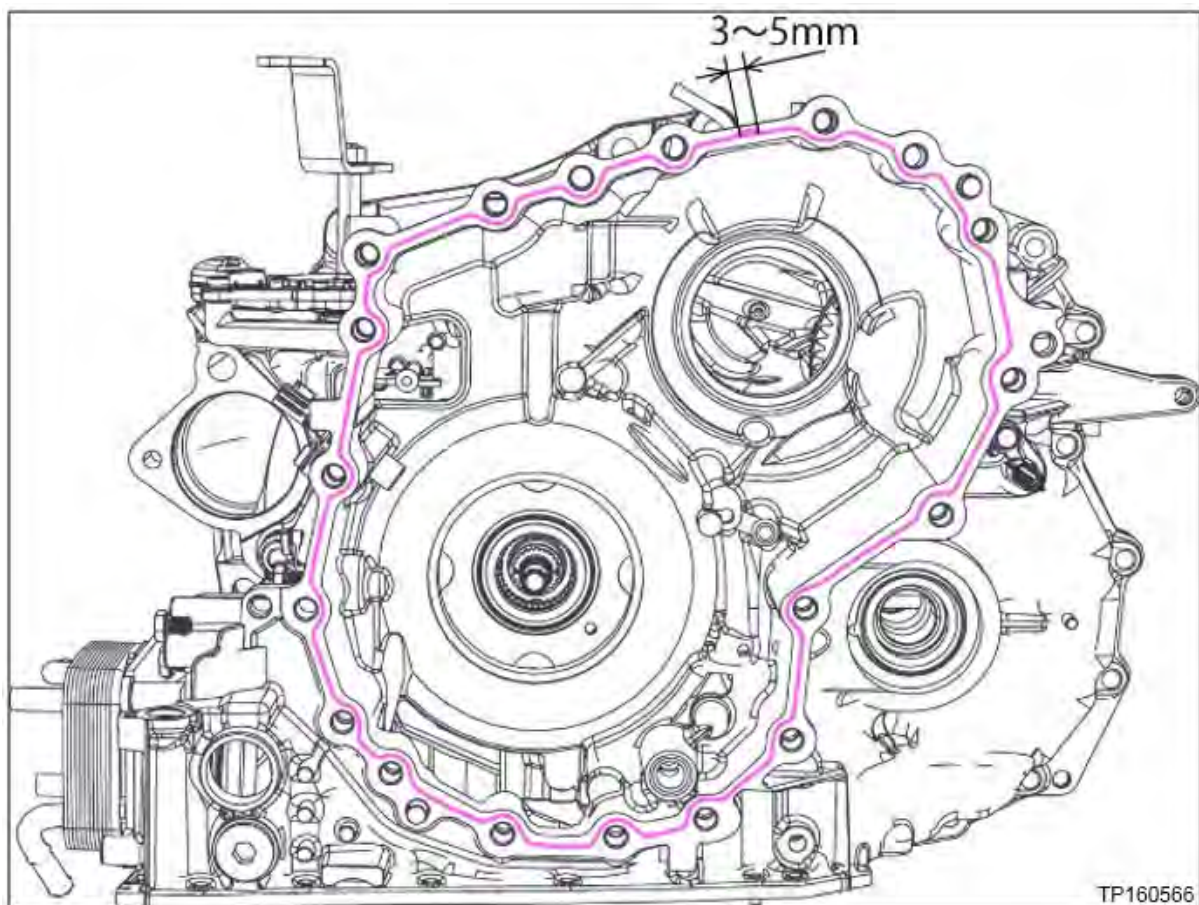

Figure 20F
17. Apply one continuous 2.0 mm diameter bead of sealant along the center of the CVT case side mating surface (Figure 20F).